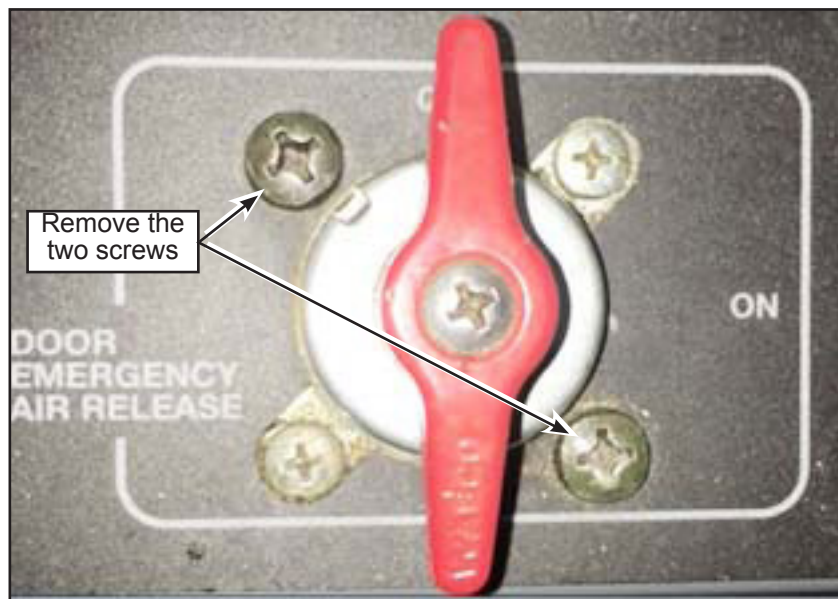

Figure 4 - Remove Philips-Head Screws
- 1.5. Remove the two Philips-head screws that secure the valve body. Discard both screws (see Figure 4).